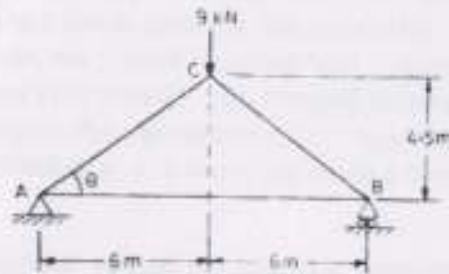

Figure 1
1. Find axial force in each member of the pin jointed truss shown in Figure 1. (10)